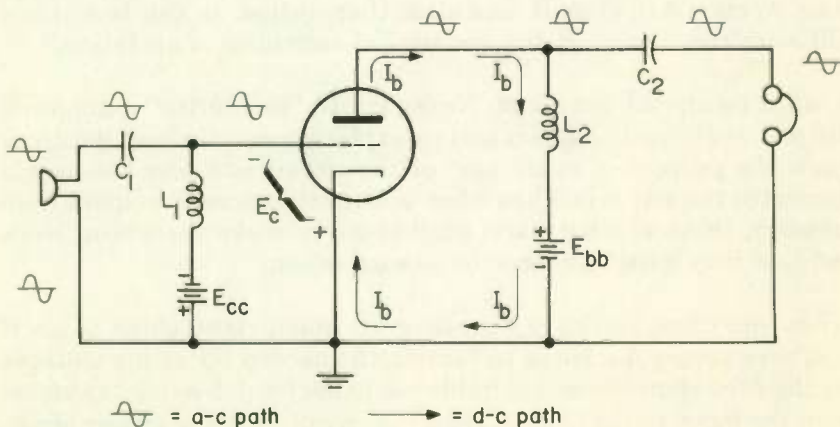

Fig. 1 The basic frequency-insensitive amplifier.
1 REVIEWING THE BASIC AMPLIFIER CIRCUIT . . . Before proceeding, let us stop for a moment and look over the circuit of a basic vacuum-tube amplifier. This circuit is shown in Fig. 1. An input signal from a microphone is amplified and fed to a pair of headphones. Two batteries are used to supply bias voltages to the tube. E_{cc} supplies a negative voltage to the grid through choke L_1 , which is a short to this d-c voltage. E_{bb} supplies a positive voltage to the plate of the tube and causes a d-c plate current I_b to flow through the tube and through the choke L_2 , which is also a short for d-c.
chokes have high impedance and the capacitors have low impedance, the amplifier will work properly. For example, the circuit of Fig. 1 could be made to amplify a 100-cps signal equally well as a 1-kc signal and all the frequencies in between.
1. Refer to the circuit of Fig. 1. What would happen if capacitor C_1 suddenly shorted out so that d-c could pass through it? (a) _____ . If the microphone is also a short for d-c, what is the total voltage appearing on the grid of the tube under this condition? (b) _____ . Now suppose that instead of C_1 shorting, the windings of L_1 short so that L_1 is a complete short circuit to both d-c and a-c. What is the total voltage appearing on the grid under this condition? (c) _____ . Suppose you put on the headphones and receive an unpleasant d-c shock. You discover the plate supply voltage E_{bb} is appearing on the headphones and has shorted to the case, giving you the shock. You immediately know that (d) _____ has shorted. If the circuit is working normally but L_2 shorts, will you hear anything on the phones? Why? (e) _____ .
2. The circuit of Fig. 1 will amplify any signal whose frequency is high enough that the chokes (a) (*block*) (*pass*) a-c and high enough that the capacitors (b) (*block*) (*pass*) a-c.